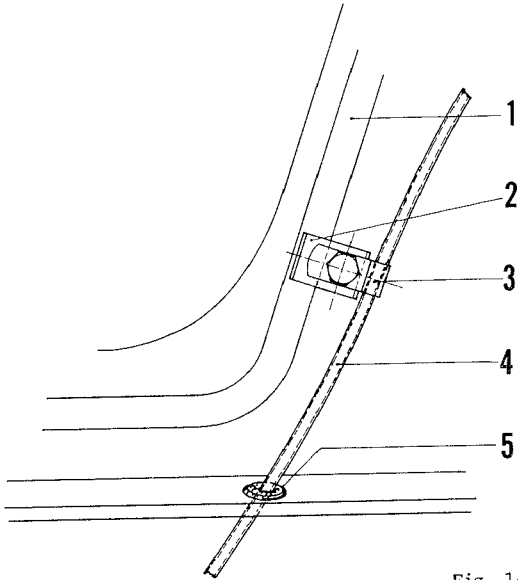

Fig. 14
18. Connect heater Bowden control cable. The cable should be placed underneath the front compartment mat and secured with a clamp utilizing a fuel tank securing bolt, then guided through a rubber grommet in the forward transverse panel of the front compartment to the heater unit (see Fig. 14).